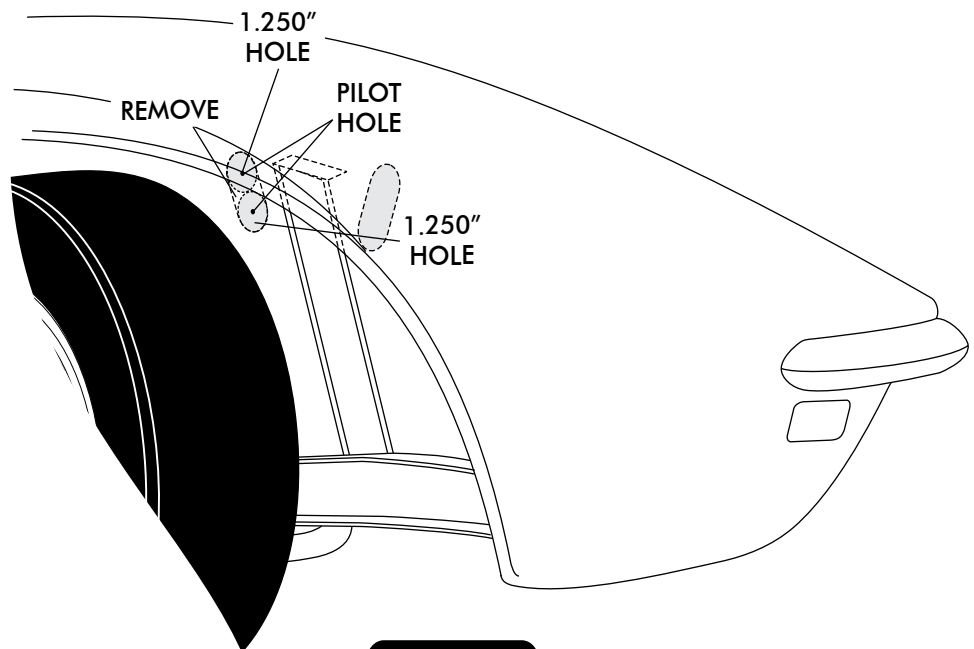

FIGURE 6
- FROM UNDER THE FENDERWELL USE A 1.250" HOLE SAW AND ALIGN THE DRILL BIT WITH THE PILOT HOLES AND CUT OUT THE TWO HOLES AS SHOWN IN FIGURE 6 BELOW.
- ONCE THE HOLES ARE MADE USE A STRAIGHT EDGE AND MARK A STRAIGHT LINE FROM THE EDGE OF ONE HOLE TO THE OTHER AS SHOWN IN FIGURE 6.
- CUT ALONG EDGES AS SHOWN AND REMOVE THE CENTER PORTION BETWEEN THE TWO HOLES. SEE FIGURE 6.